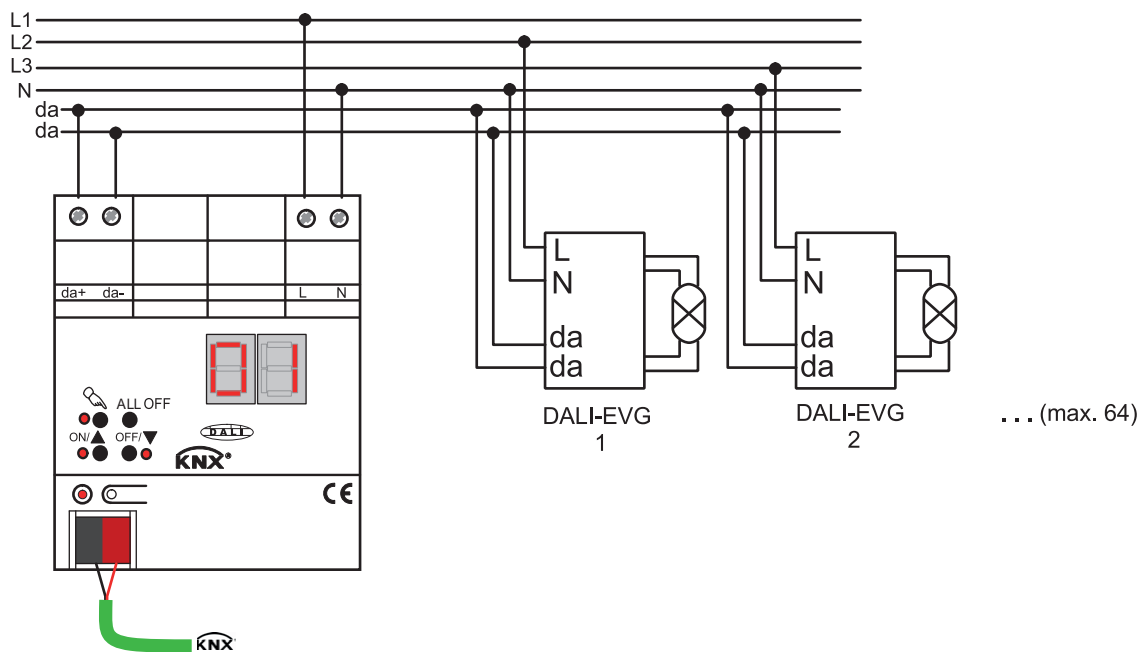

Figure 2: Electrical connection of mains voltage and the DALI interface
- Connect the mains voltage and the DALI system as shown in the connection example (figure 2).